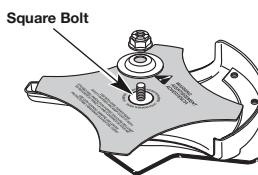

Fig. 23
- Make sure that the cutting blade is centered on the pilot step and sitting flat against the output shaft bushing (Fig. 23).